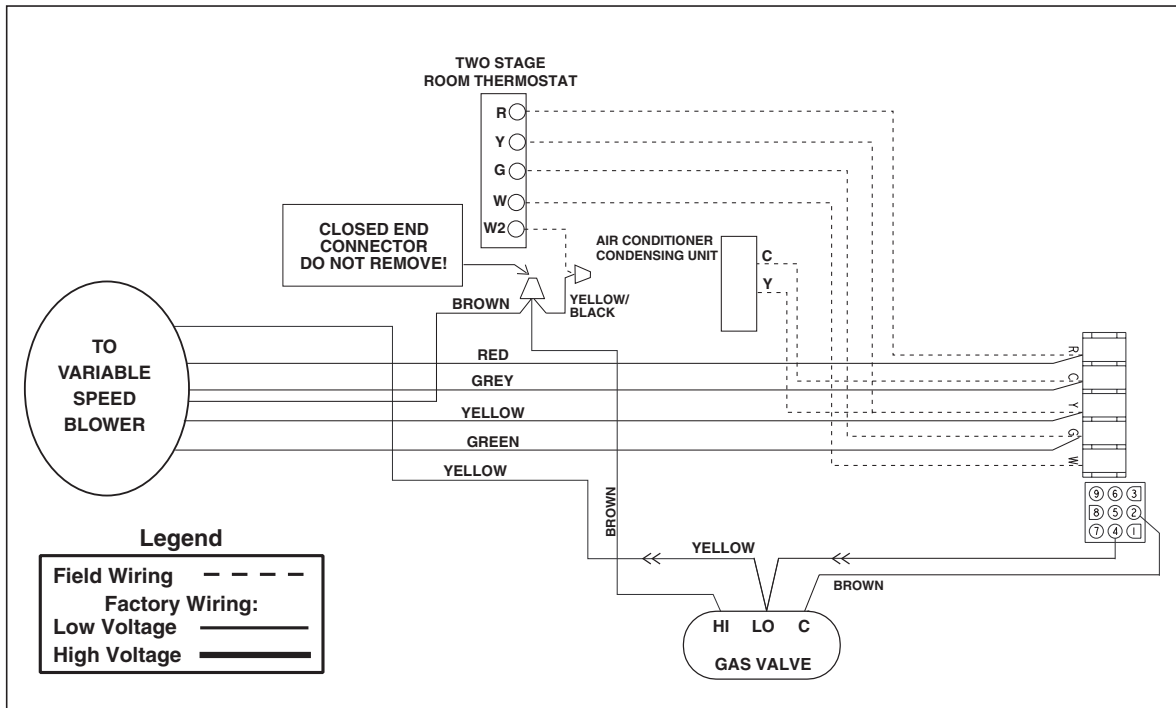

Figure 20. Two Stage Configuration
1. *Two stage heating thermostat configuration* – For this installation a two stage heating thermostat is used. **CAUTION:** Disconnect yellow wire with black stripe from primary gas valve. Remove female connector from yellow/black wire and strip insulation from end. Connect stripped yellow wire with black stripe to (W2) from the thermostat. (See Figure 20). The first stage bulb (W1) is connected to W on the furnace control board. On a call for first stage heat, the furnace will operate at low fire and the blower will run at a lower speed. On a call for second stage heat, the furnace will operate at high fire and the blower will run at a higher speed. The furnace will stage between low fire, high fire, and off depending on the thermostat signal.